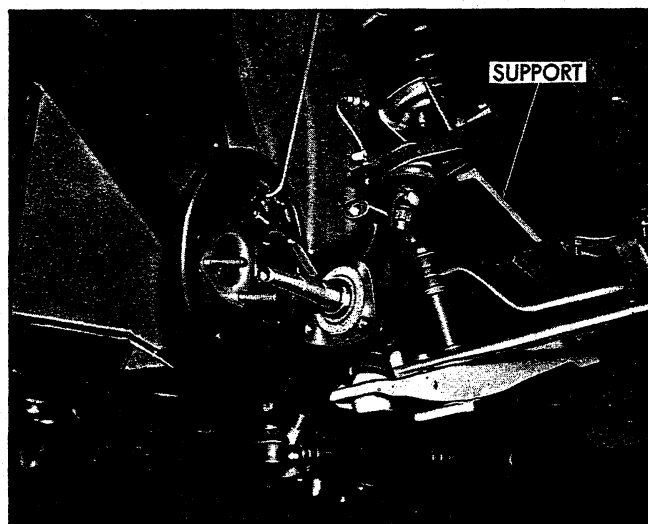

Fig. 13 - Backing Plate Removed - Chevy II
Chevy II--While vehicle weight is still on front wheels, position support between upper control arm and frame side rail (fig. 13), then raise vehicle and position adjustable jackstand under lower control arm.
5. Withdraw steering arm and brake backing plate from steering knuckle. Wire backing plate to frame (fig. 13). Do not disconnect brake line.